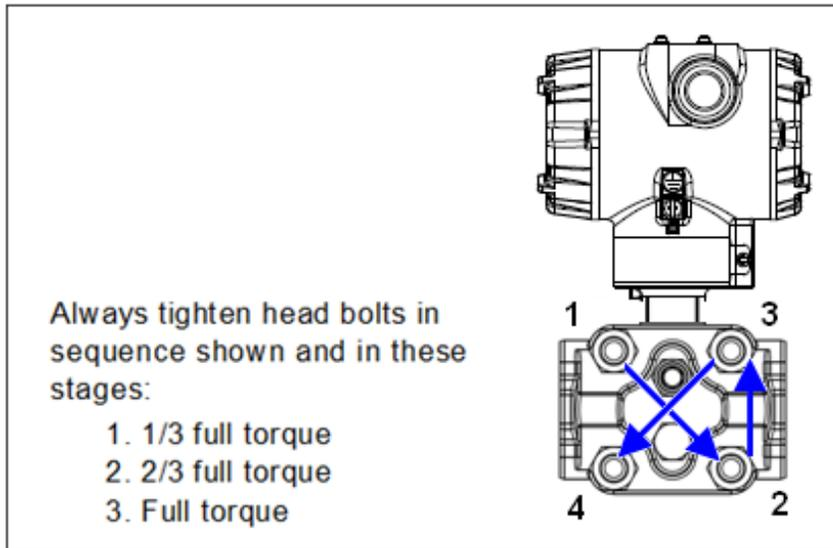

Figure 24 – Head Bolt Tightening Sequence
4. Loosen the nuts in the sequence shown in Figure 24.
12. Using a torque wrench, gradually tighten the nuts in the sequence shown in Figure 24. Tighten head bolts in stages of 1/3-full torque, 2/3-full torque, and full torque. See Table 26 for torque requirements versus Transmitter type and model.